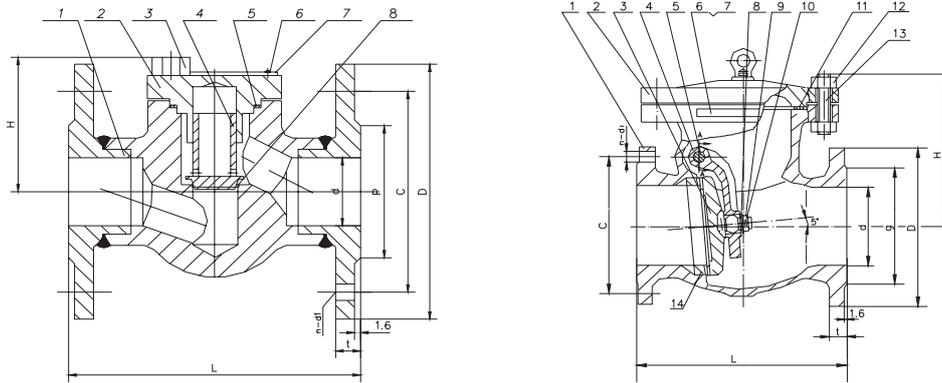

Figure 1
3.1 Typical structure of check valve is shown in Figure 1. Their basic structure conforms to the product standards specified in the purchase order.